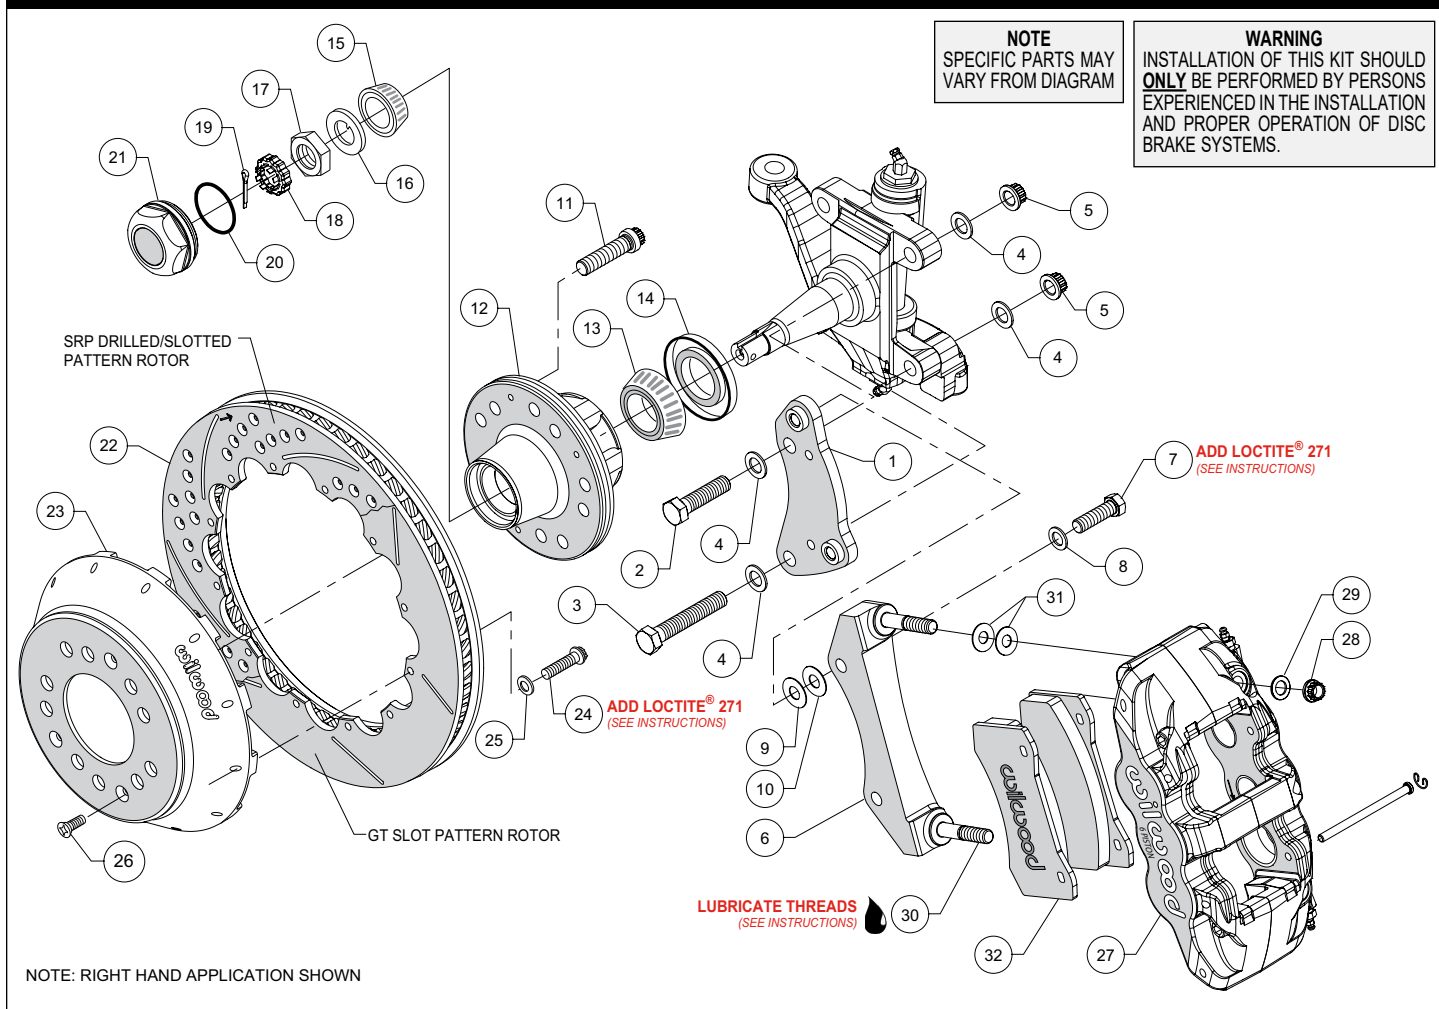
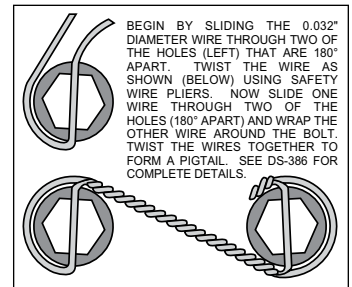
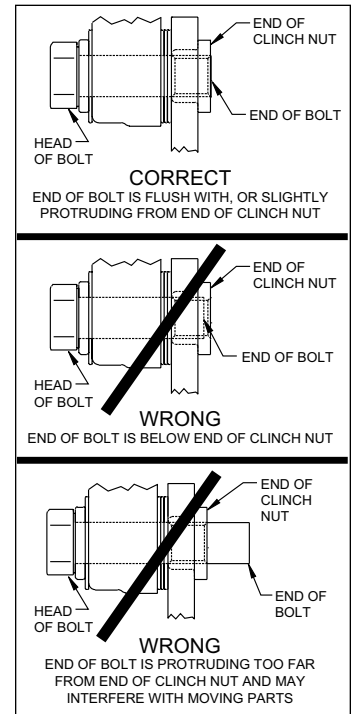

Figure 1. Typical Installation Configuration
Figure 3. Safety Wire Diagram
Figure 4. Clinch Nut Engagement Diagram
Assembly Instructions (numbers in parenthesis refer to the parts list, on the preceding page and Figure 1). **CAUTION:** All mounting bolts must fully engage clinch nuts. Be sure to check that all bolts are either flush or protruding through flanged side of clinch nut after shimming, Figure 4.
- Orient the spindle bracket (1) as shown in Figure 1 and Photo 1, and install using bolts (2 and 3), washers (4) and nuts (5). Temporarily tighten the mounting bolts. Ensure that the flanged heads of the clinch nuts in the bracket are facing outboard, Photo 1. **NOTE:** The bracket must fit squarely against the mount bosses on the upright. Inspect for interference from casting irregularities, machining ridges, burrs, etc. Torque lock nuts to 65 ft-lb.
- The caliper mount radial bracket (6) should initially be installed with clean, dry threads on the mounting bolts. Orient the bracket as shown in Figure 1 and Photo 2. Install onto the spindle bracket using bolts (7), and washers (8). Initially place one .030 thick shims (9) on each bolt between the radial and spindle brackets, Figure 1. Temporarily tighten the mounting bolts. Later, after the caliper alignment has been checked, the mount bolts will be secured using red *Loctite*® 271.
- Install wheel studs (11) into the hub (12), Photo 3. Torque to 77 ft-lb. **NOTE:** *There are two five lug patterns in the hub (5 x 4.50 and 5 x 4.75).* Ensure the correct hub stud pattern is being used to fit the wheel application.
- Pack the large inner bearing cone (13) with high temperature disc brake bearing grease (available from your local auto parts store) and install into the backside of the hub (12), Photo 4.
- Install the grease seal (14) by pressing into the backside of the hub (12), flush with the end of the hub, Photo 5.
- Pack the small outer bearing cone (15) with high temperature disc brake bearing grease and install into the front side of the hub (12), Photo 6. Slide the hub assembly onto the spindle. Secure using spindle washer (16) and spindle nut (17). Adjust bearings per OEM specifications. Install spindle nut retainer (18) and cotter pin (19), Photo 7.
- Screw dust cap (21) into hub (12), Photo 8. Friction created by the o-ring (20) on the dust cap keeps it from unscrewing. **NOTE:** *The O.D. of the existing OEM spindle washer may be larger than the I.D. of the dust cap not allowing it to seat against the hub face. Therefore, use the spindle washer (16) supplied with the kit instead of the OEM washer.*
- Orient the rotor (22) and the hat (23) as shown in Figure 1 and Photo 9. Attach rotor to hat using bolts (24) and washers (25). Apply red *Loctite*® 271 to the bolt threads and torque to 155 **in-lb** using a criss-cross pattern. For an added measure of security, the bolts may be safety wired using standard 0.032 inch diameter stainless steel safety wire as shown in Figure 3. Refer to Wilwood's data sheet DS-386 (available at www.wilwood.com/Pdf/DataSheets/ds386.pdf) for complete safety wire installation instructions.
- Slide the hat/rotor assembly (23/22) onto the hub (12) taking care to align the small countersunk holes in the hat with the small threaded holes in the hub, Photo 10. **NOTE:** *The hat must fit flush against the hub face or excessive rotor run out may result.* Install three flat head screws (26) through the small holes in the hat, and torque to 85 **in-lb**.
- NOTE:** *This kit contains distinct right and left hand calipers that must be mounted in a specific direction, as described below.* Lubricate the caliper mounting studs (30) with lightweight oil. Initially place two .030" thick shims (31) on each stud between the caliper and the bracket, as shown in Figure 1 and Photo 11. Mount the caliper (27) onto the bracket (6) using lock nuts (28) and washers (29), Figure 1. Ensure that the caliper is mounted so the largest pistons are at the rotor exit end of the caliper, in relation to the direction of rotor rotation. Temporarily tighten the lock nuts and view the rotor through the top opening of the caliper. The rotor should be centered in the caliper, Photo 12. If not, adjust by adding or subtracting shims (9 and/or 10) between the
- Remove the two pad retaining pins from the caliper (27) by carefully popping out the pin retaining clips and sliding out the pins. Insert the brake pads (32) into the caliper from the bottom, Figure 1 and Photo 13. With the friction material facing the rotor, secure the brake pads in place with the pad retaining pins and clips, Photo 14. Reinstall the caliper onto the caliper mounting bracket and temporarily tighten the lock nuts (28). Check that the top of the brake pad is flush with the outside diameter of the rotor, Photo 15. If not, adjust by adding or subtracting shims (31) between the caliper and the bracket. After the caliper pad height is set, torque the caliper lock nuts (28) to 47 ft-lb.